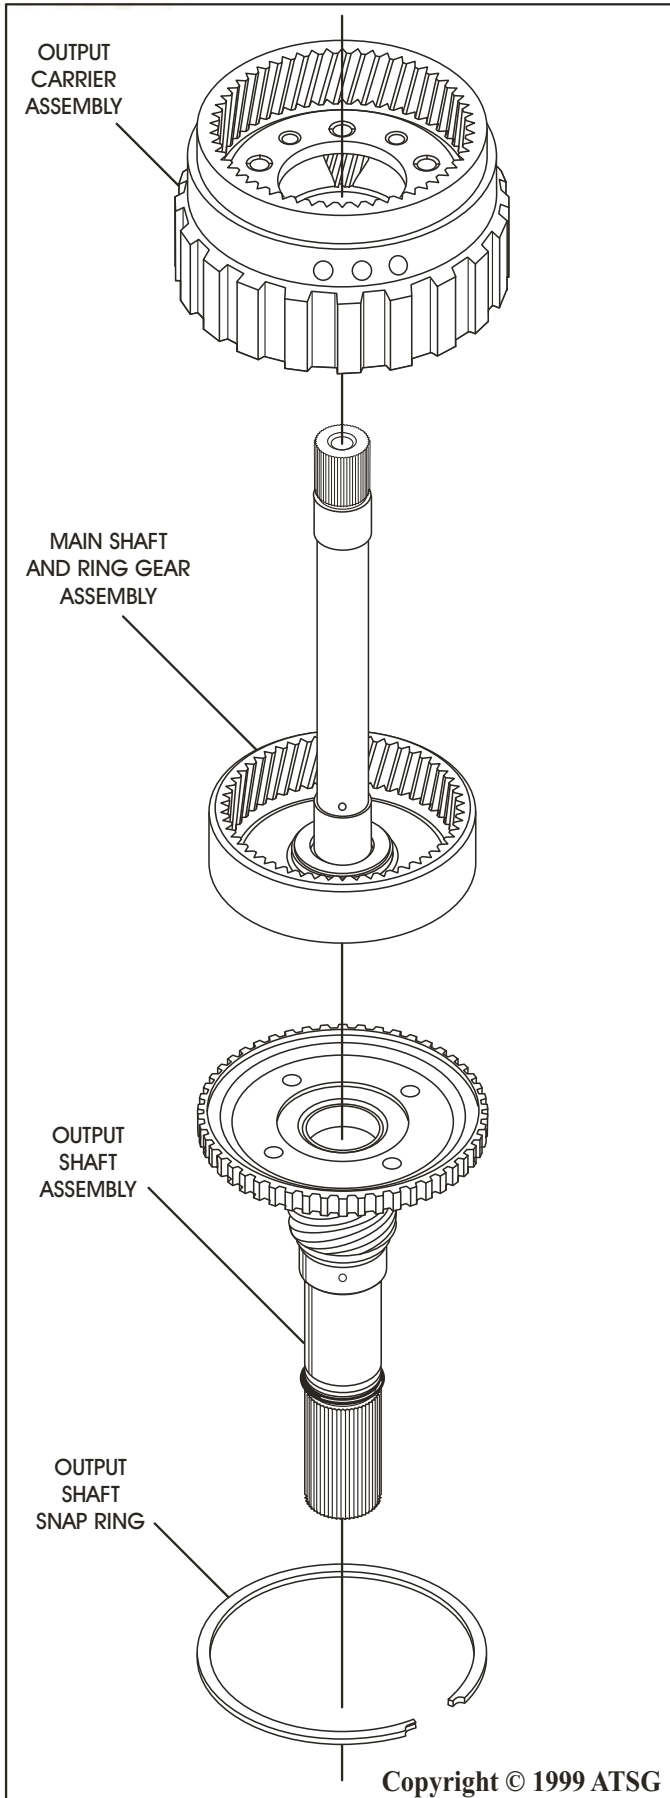

Figure 62
18. Install the main shaft and ring gear assembly into and through the output carrier, as shown in Figure 62.
19. Install the output shaft assembly into the output carrier as shown in Figure 62, and ensure that the bearing on back side of ring gear is still in the proper position.
20. Install the output shaft retaining snap ring into the groove in the output carrier (See Figure 62).